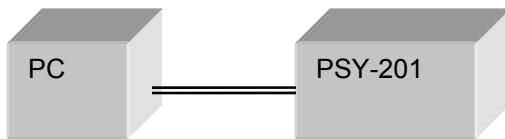

Figure 28 Direct connection: PSY-201 to PC
- a) Static IP: the administrator assigns the instrument a fixed IP address. In this mode the instrument can be directly connected to the control PC, as shown in Figure 28. For this configuration, a cross-linked network cable must be used. Note: Static IP can also be used with the instrument connected to a router. In this case, a straight-linked network cable would be used.